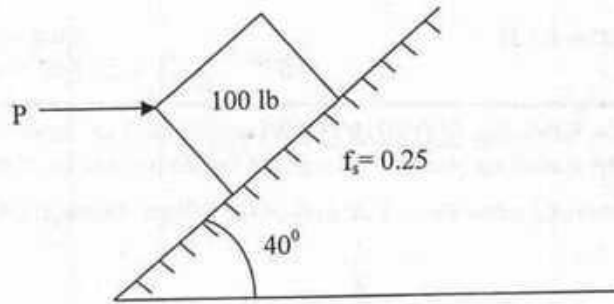

FIGURE 4
4. Referring to FIGURE 4, determine the range of values which the horizontal force P may have without disturbing the equilibrium of the 100-lb block resting on the plane inclined at an angle of 40° with the horizontal. The coefficient of friction between the block and the plane is $f_s = 0.25$ (10)